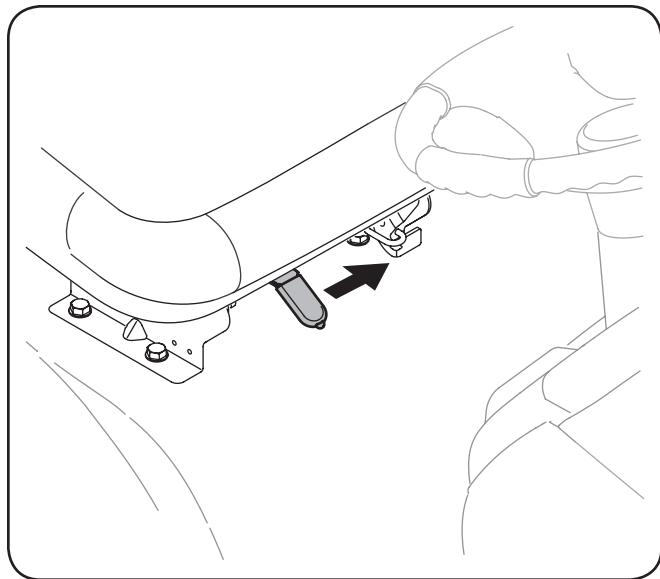

Figure 3-7
- To adjust the position of the seat on models equipped with a seat adjustment lever, move the seat adjustment lever (*located under the seat*) to the left and slide the seat forward or rearward. See Fig. 3-7. Make sure seat is locked into position before operating the tractor.